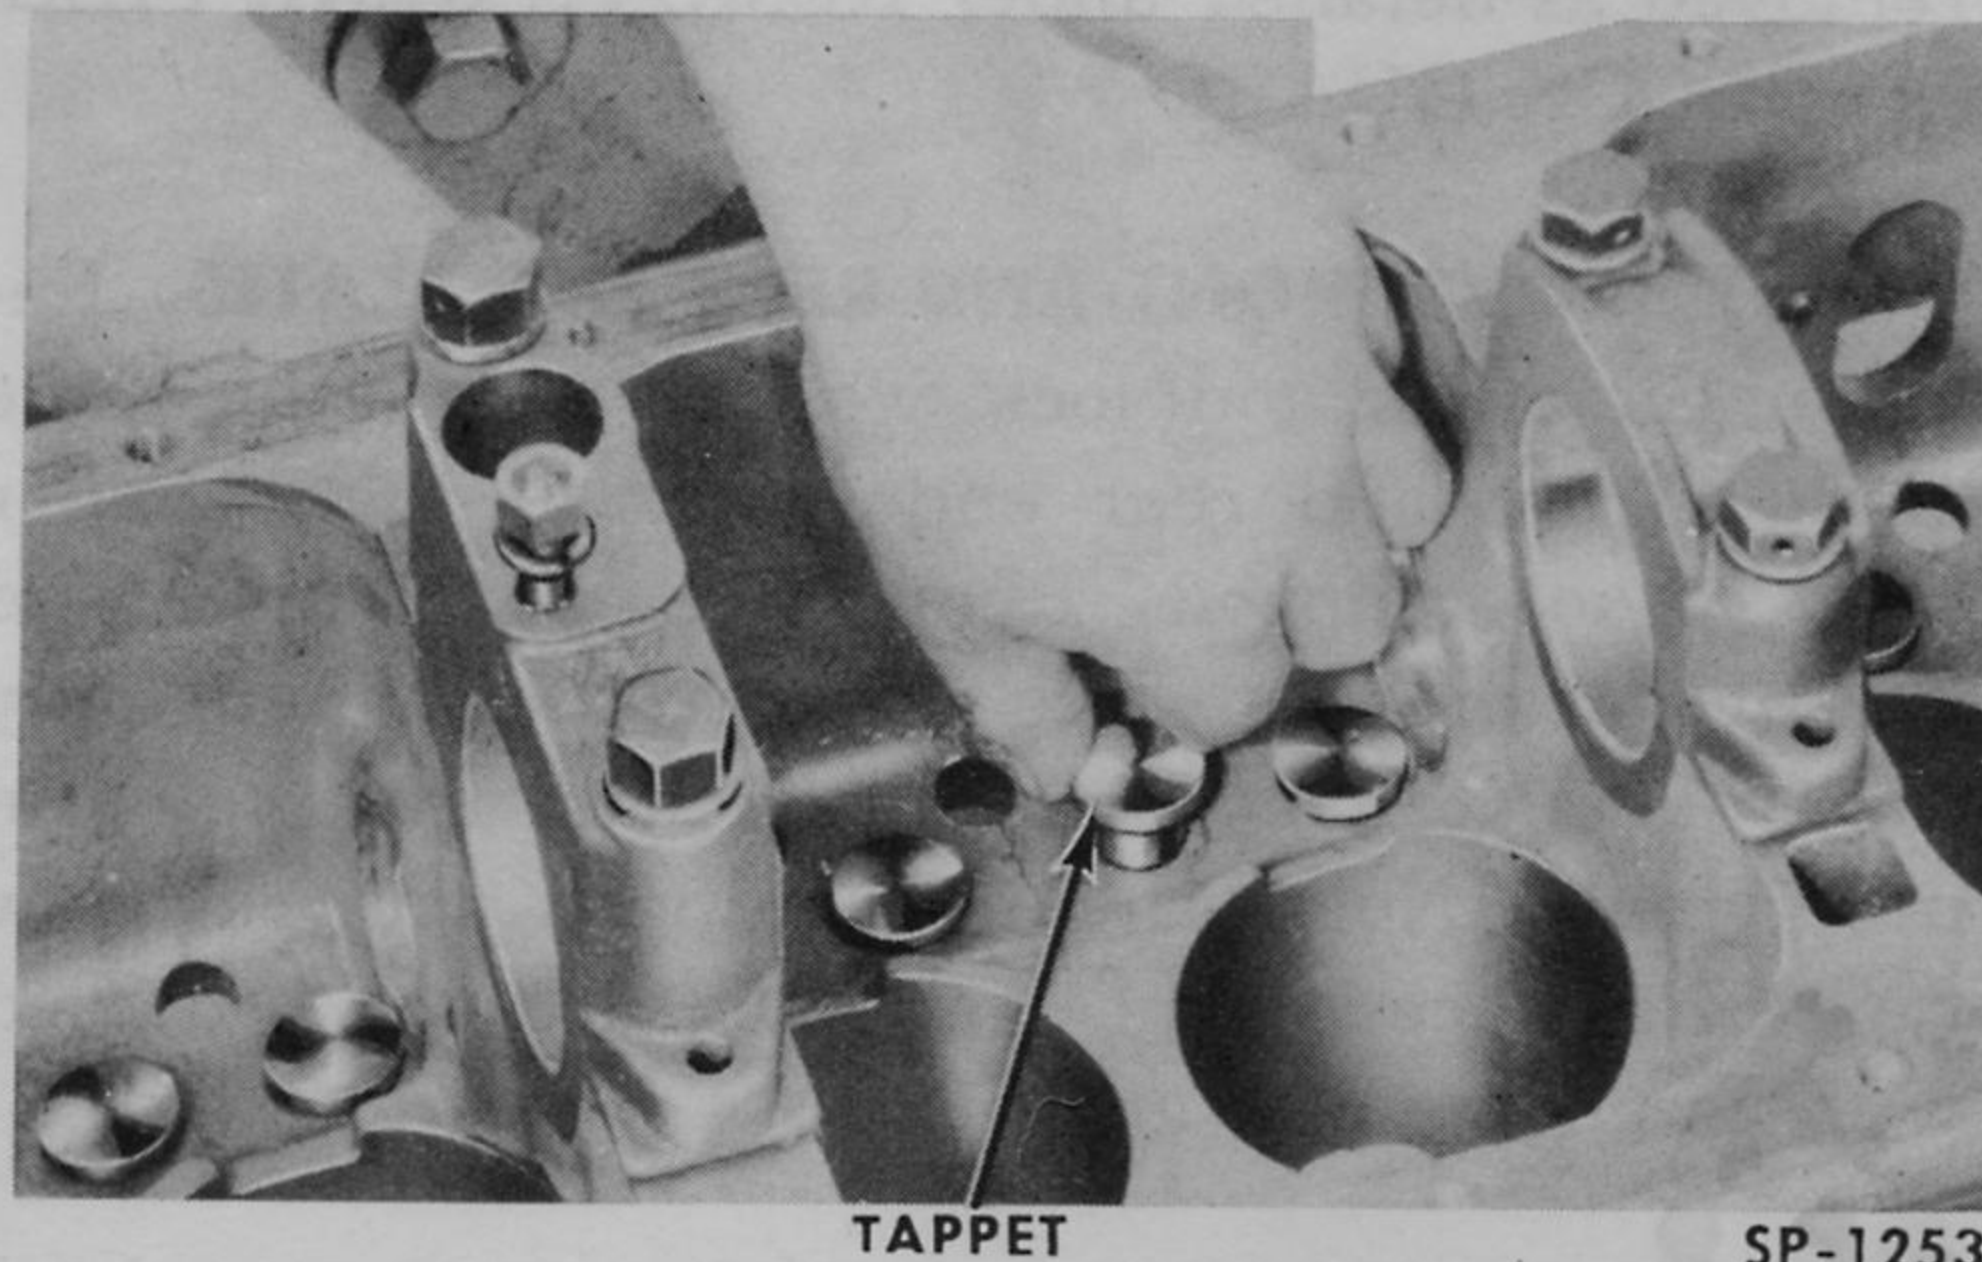

Fig. 31—Removing Valve Tappet from Cylinder Block
v. REMOVE TAPPETS. Remove the tappets from the bottom or crankshaft side of the cylinder block after the camshaft has been removed. Tag each tappet or place them in a marked rack so they may be assembled in their original positions (Fig. 31).